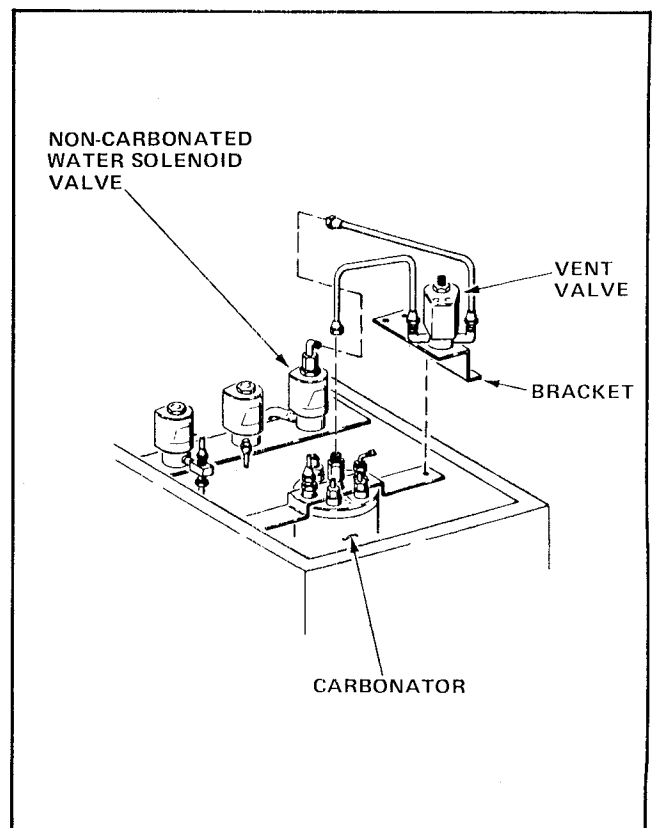

FIGURE 7
- a. Disconnect at the Carbonator and the Non-Carbonated Water Solenoid Valve the Tubes that lead to the Vent Valve. See Figure 7.
- b. Remove the Vent Valve and Bracket from the Water Bath by loosening the Screw in the keyhole-shaped mounting hole at the base of the Bracket. See Figure 7.
- a. Attach the Vent Valve and Bracket, that was removed in Step 20 of Part A, to the Pan Head Slotted Screw located at the right end of the Carbonator Mounting Bracket. Do not remove the Screw. See Figure 7.
- b. Connect the Tubes leading from the Vent Valve to the Carbonator and Non-Carbonated Water Solenoid Valve. Tighten the flare Nuts. See Figure 7.